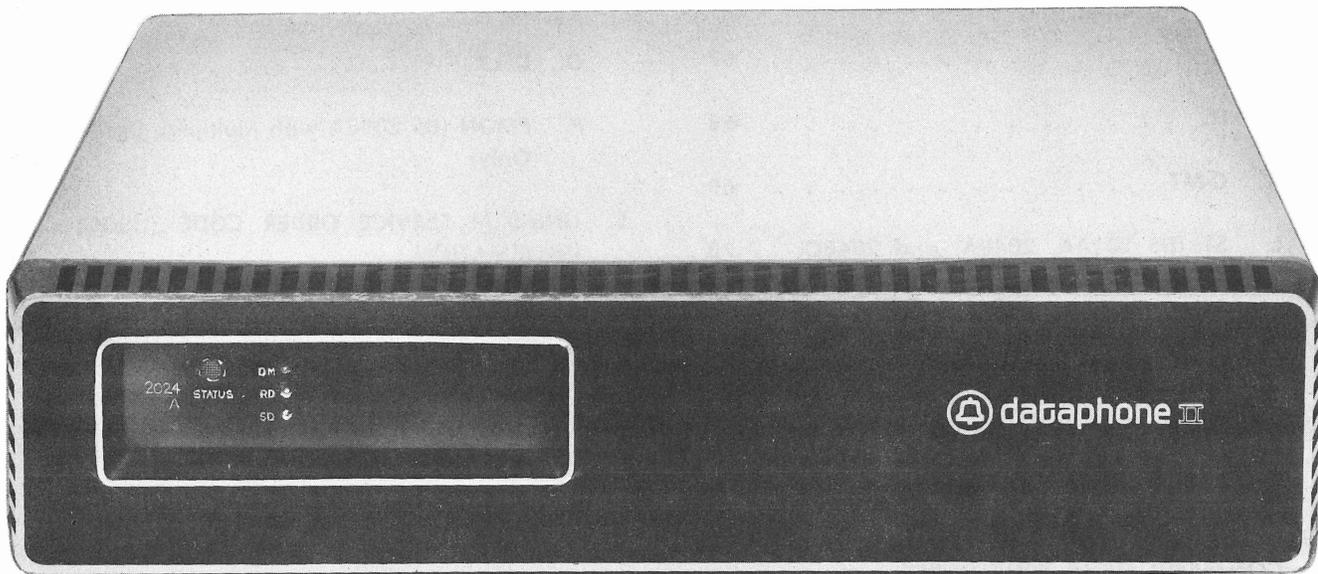

Fig. 1—Example of DATAPHONE II Service Data Set (Stand Alone)
**1.01** This section contains the physical and functional description and operating procedure for DATAPHONE® II service data sets (DSs) 2024A, 2048A, 2048C, and 2096A (Fig. 1).